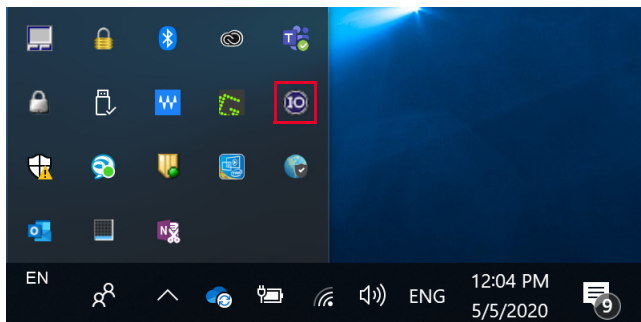

Figure 8-1 Launching the Keysight Connection Expert
- 1 Launch your Keysight Connection Expert as shown in Figure 8-1.